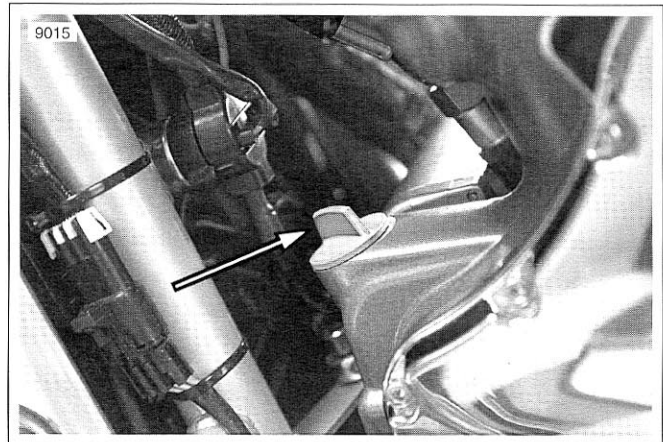

Figure 1-13. Dipstick/Filler Cap
2. See Figure 1-13. Oil filler cap with dipstick is located on the engine left side. Remove filler cap and dipstick and wipe dipstick clean.
3. See Figure 1-13. Unscrew filler cap (with attached dipstick) located at front of engine on left side. Remove filler cap and dipstick and wipe dipstick clean.
5. See Figure 1-13. Remove filler cap and check oil level on dipstick.
2. See Figure 1-13. Remove the oil filler plug/dipstick on left side.
7. See Figure 1-13. Select the grade of oil for the lowest temperature expected before next oil change. See Table 1-1.